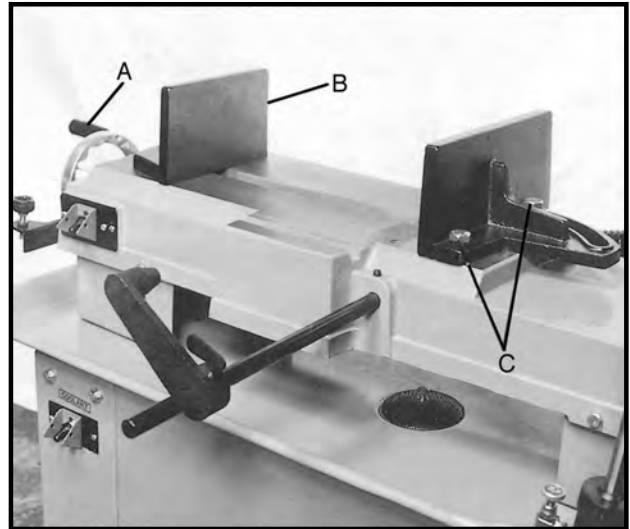

Fig. 5
1. Remove bolt assemblies (C, Fig. 5).
2. Position vise and re-install bolt assemblies as pictured in Fig 5.